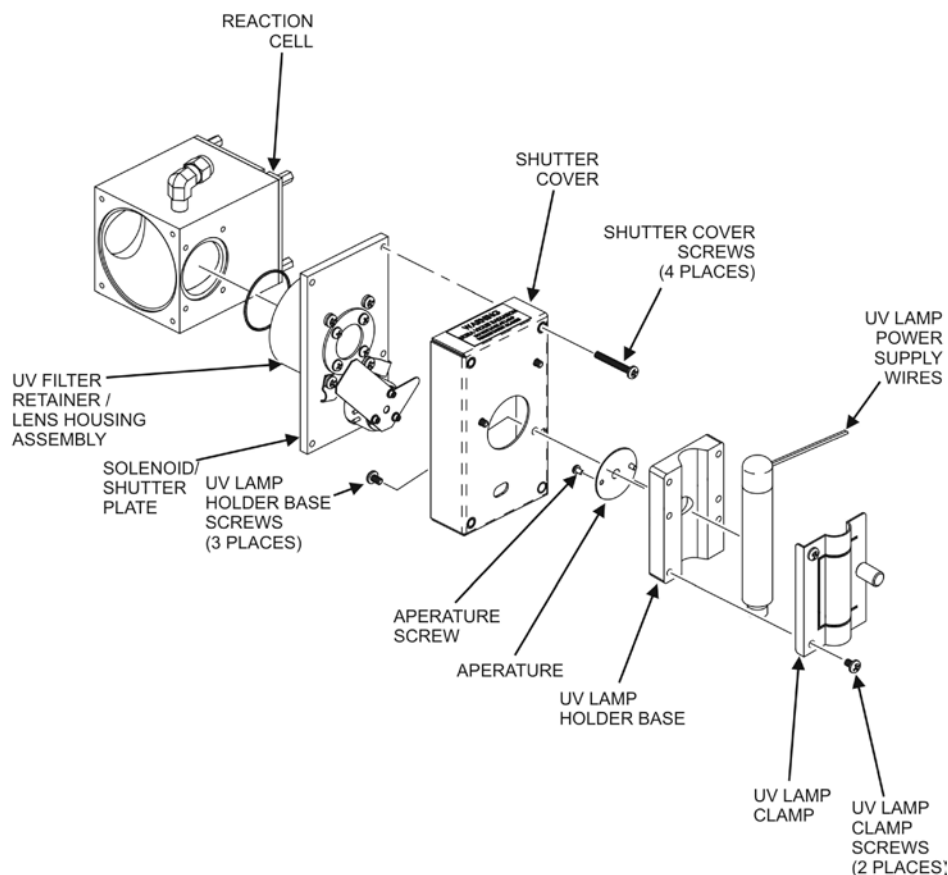

Figure 8-4. Shutter Assembly
3. Loosen, but do not remove the two UV lamp bracket screws and the large brass thumbscrew located on the shutter housing (refer to Figure 8-4) so that the lamp can be moved.
DO NOT grasp the UV lamp by its cap when changing its position (refer to Figure 8-4). Always grasp the main body of the lamp.